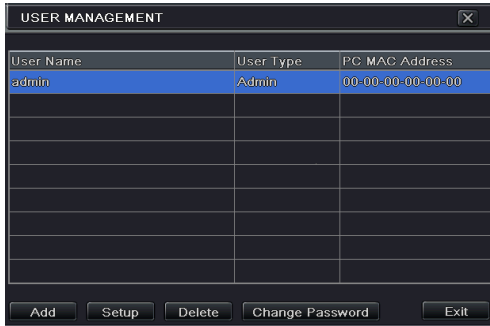

Fig 4-27 User Management Configuration
Step 1: Enter into Menu→Setup→Users. Refer to Fig 4-27: